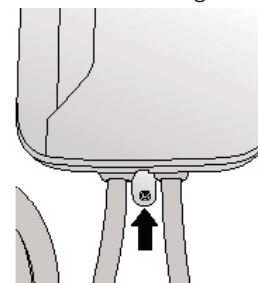

Figure 4-3.
4. See Figure 4-3. Secure mounting tab to wall.